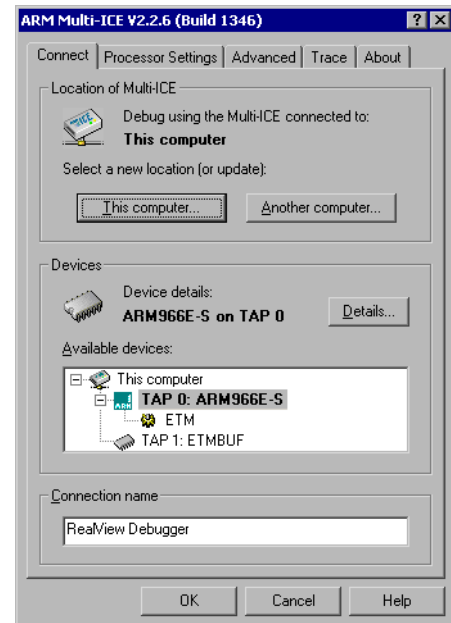

Figure B-6 Multi-ICE configuration dialog box
7. Right-click on the Multi-ICE entry and select **Configure Device Info...** from the context menu to display the ARM Multi-ICE configuration dialog box, shown in Figure B-6.